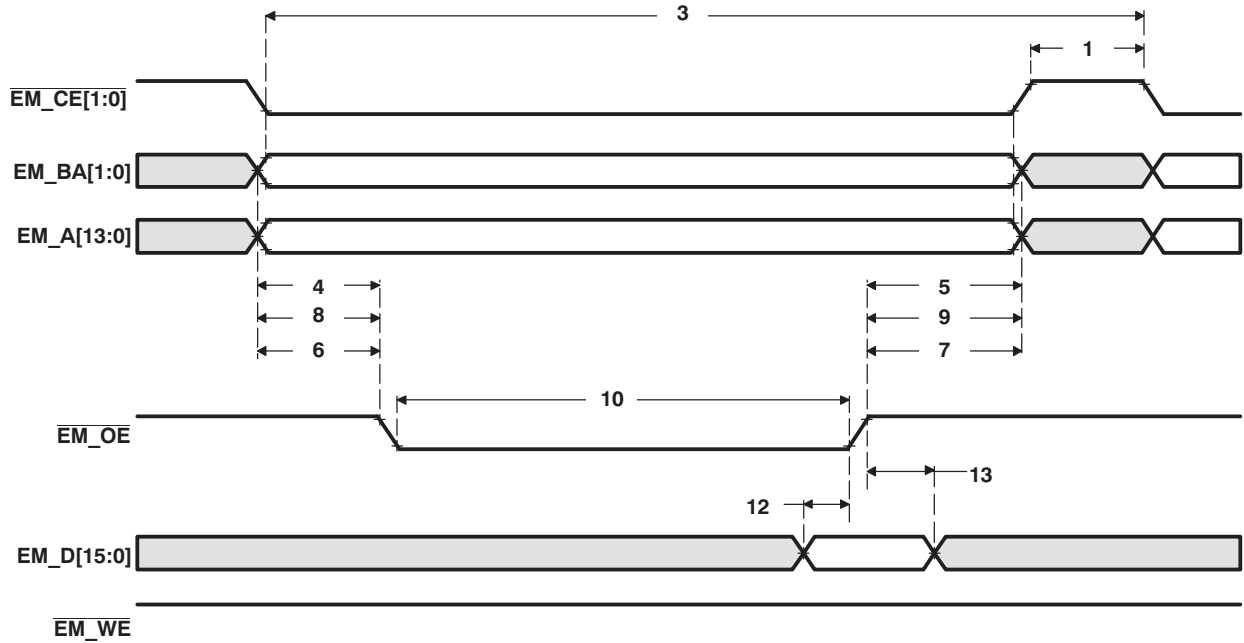
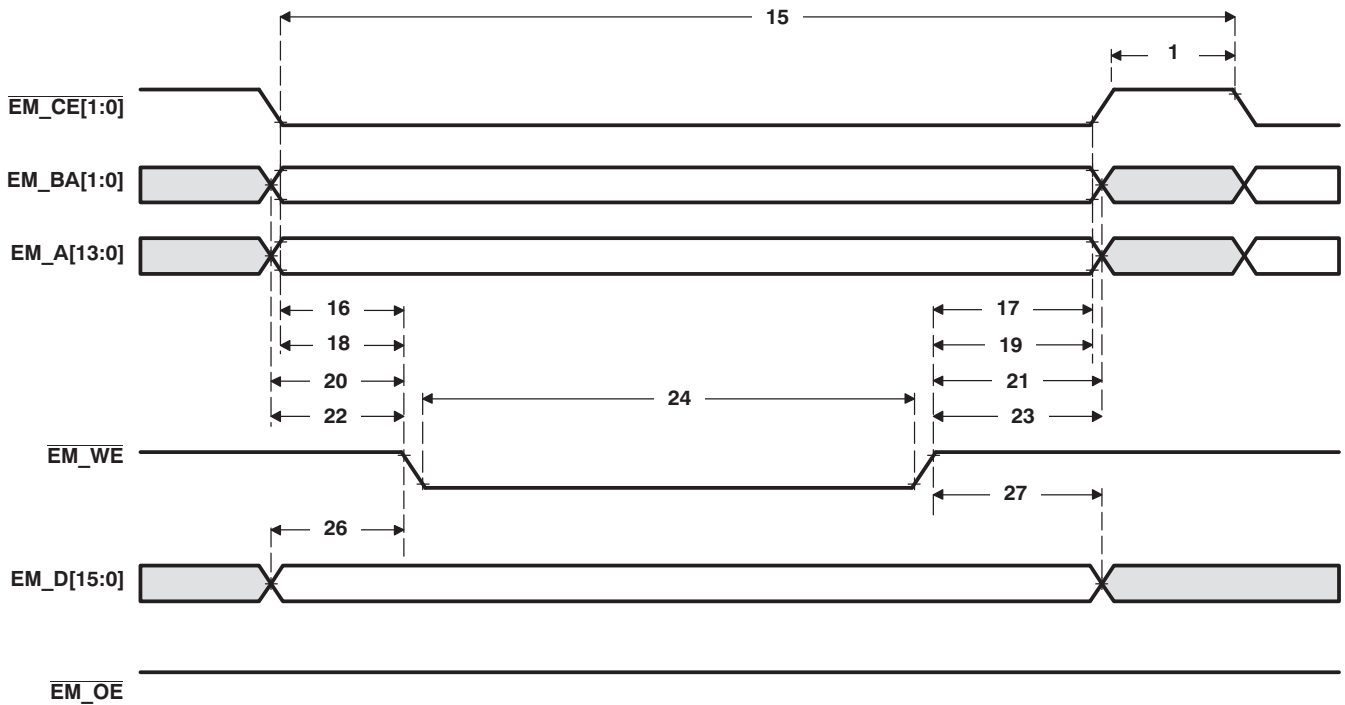

Figure 5-14. Asynchronous Memory Read Timing for EMIF
Figure 5-15. Asynchronous Memory Write Timing for EMIF
**Table 5-13. Timing Requirements for Asynchronous Memory Cycles for AEMIF Module(1) (see Figure 5-14 and Figure 5-15)**
**Table 5-14. Switching Characteristics Over Recommended Operating Conditions for Asynchronous Memory Cycles for AEMIF Module(1)(2)(3) (see Figure 5-14 and Figure 5-15)**
(1) TA = Turn around, RS = Read setup, RST = Read strobe, RH = Read hold, WS = Write setup, WST = Write strobe, WH = Write hold, MEWC = Maximum external wait cycles. These parameters are programmed via the Asynchronous Bank and Asynchronous Wait Cycle Configuration Registers. These support the following range of values: TA[4-1], RS[16-1], RST[64-1], RH[8-1], WS[16-1], WST[64-1], WH[8-1], and MEW[1-256]. See the TMS320DM355 DMSoC Asynchronous External Memory Interface (EMIF) User's Guide (SPRUED1) for more information.
(2) E = PLLC1 SYSCLK2 period in ns. SYSCLK2 is the EMIF peripheral clock. SYSCLK2 is one-fourth the PLLC output clock. For example, when PLLC output clock = 432 MHz, E = 9.259 ns. See Section 3.5 for more information
(3) EWC = external wait cycles determined by EM\_WAIT input signal. EWC supports the following range of values EWC[256-1]. Note that the maximum wait time before timeout is specified by bit field MEWC in the Asynchronous Wait Cycle Configuration Register. See the TMS320DM355 DMSoC Asynchronous External Memory Interface (EMIF) User's Guide (SPRUED1) for more information.
**Table 5-14. Switching Characteristics Over Recommended Operating Conditions for Asynchronous Memory Cycles for AEMIF Module (see Figure 5-14 and Figure 5-15) (continued)**
Table 5-14. Switching Characteristics Over Recommended Operating Conditions for Asynchronous Memory Cycles for AEMIF Module (see Figure 5-14 and Figure 5-15) (continued)